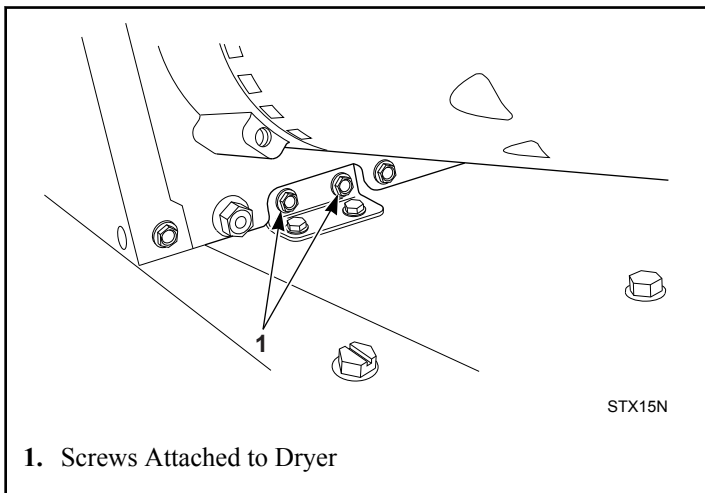

Figure 8
3. Locate two L-brackets on back of unit, one on each side. Remove two screws attaching the bracket to the dryer. Leave the L-bracket mounted to the washer. Refer to *Figure 8*.